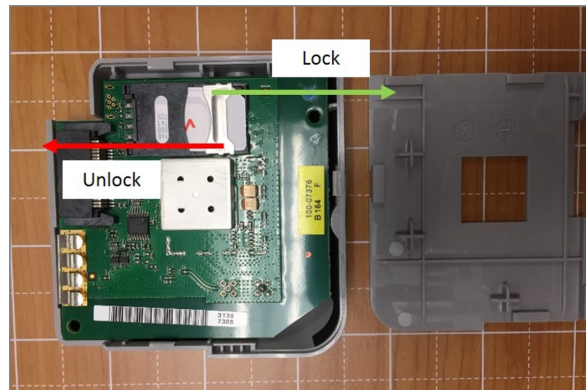

Figure 4.7: Unlock or Lock Movement
- Find the SIM card holder and slide its door to unlock (see Figure 4.7).
- Slide the card holder door back and lock it (see Figure 4.7).